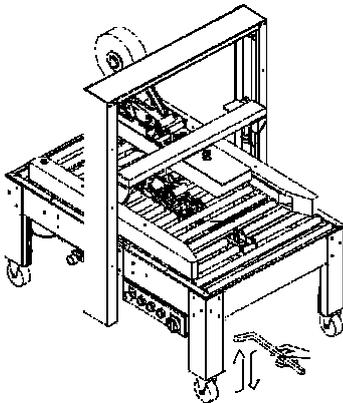

Figure 3-1
1. Leg adjustment: This machine is equipped with the adjustable legs; the legs can be adjusted to obtain different height from min. 570mm to max. 770m, it is to be in accordance with the customer's conveyor height. Please refer to Figure3-1.